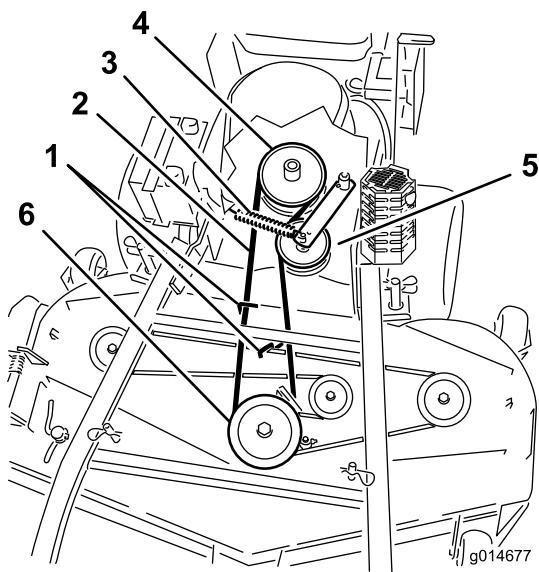
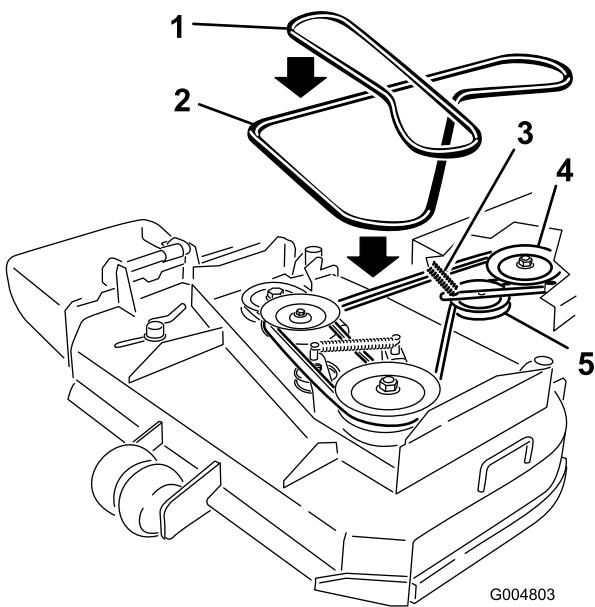

Figure 52
Figure 53
6. Roll the belt off of the center pulley on the mower deck (Figure 52). Refer to Figure 53 to roll the belt off left pulley for a 36 inch mower deck. Use caution when removing the belt as tension will increase because of the spring loaded idler pulley.
7. Remove the belt from the engine pulley and the spring loaded idler pulley (Figure 52). Refer to Figure 53 to remove the belt from the 36 inch mower deck pulleys.
8. Install the new belt onto the engine pulley and spring loaded idler pulley (Figure 52).
9. Roll the belt onto the center pulley on the mower deck (Figure 52). Use caution when install the belt as tension will increase because of the spring loaded idler pulley. Refer to Figure 53 to roll the new belt onto the left pulley for a 36 inch mower deck.
11. Adjust the belt guide an 1/8 inch (3 mm) from the belt for 40, 48 and 52 inch mower decks (Figure 52).